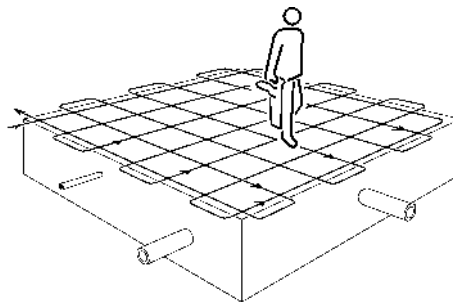

Figure 4.4: Passive sweep
- 3 Traverse the area in a grid search (Figure 4.4), at a steady walk, and hold the locator comfortably with the antenna in line with the direction of movement and at right angles to any lines that may be crossed.